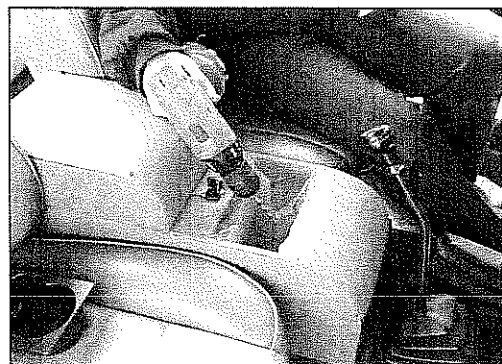

Figure 4
6. Drill one hole in the center and as far forward as possible through the bottom of the Console and the floor of the vehicle using a 3/16" drill bit (Figure 4).
7. Secure using (1) 14 X 1 3/4" Sheet Metal Screw provided.